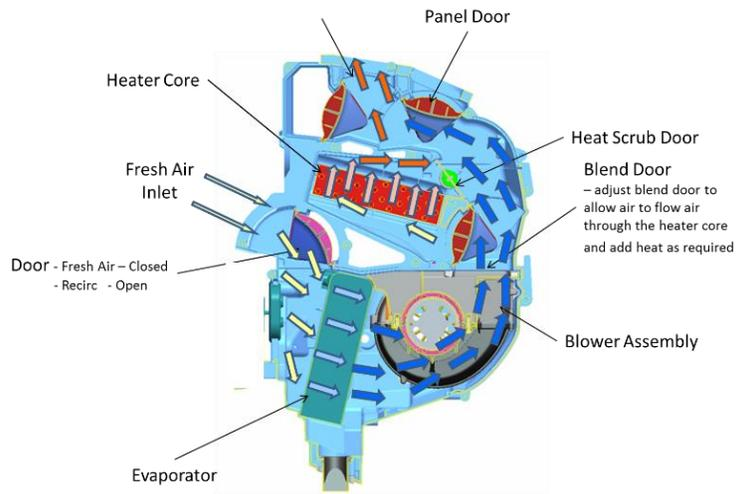

Figure 9: Fresh Air, Defrost
*Figure 9* illustrates the system airflow when operating in the **DEFROST mode**. The Defrost mode is identical to the Bi-Level Defrost/Heat mode; except, the mode doors direct all the output air to the defrost ducts.